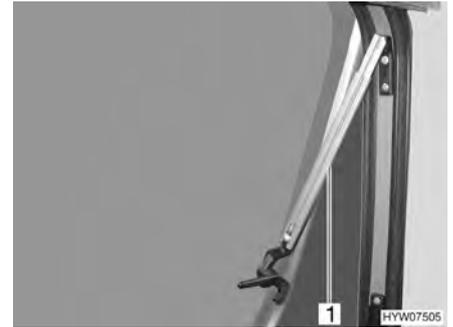

Fig. 58 Hinged window with automatic hinges, open
- Open the hinged window to the desired latched position. The automatic hinge (Fig. 58,1) locks in place automatically.